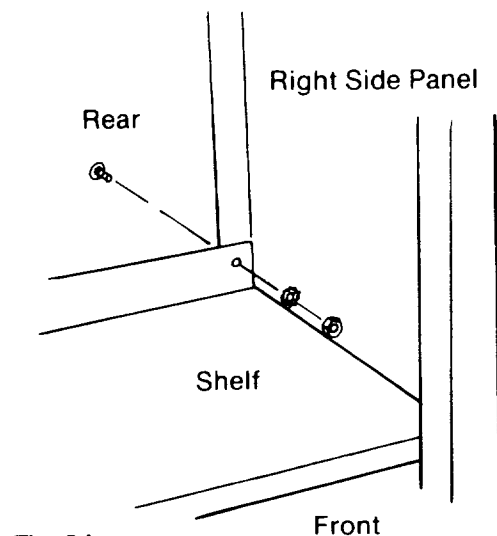

Fig. 34
9. Put a truss head bolt through the hole at the back, right corner of the *shelf*. This hole goes through the *shelf* and the *right side panel*. (Figure 34)